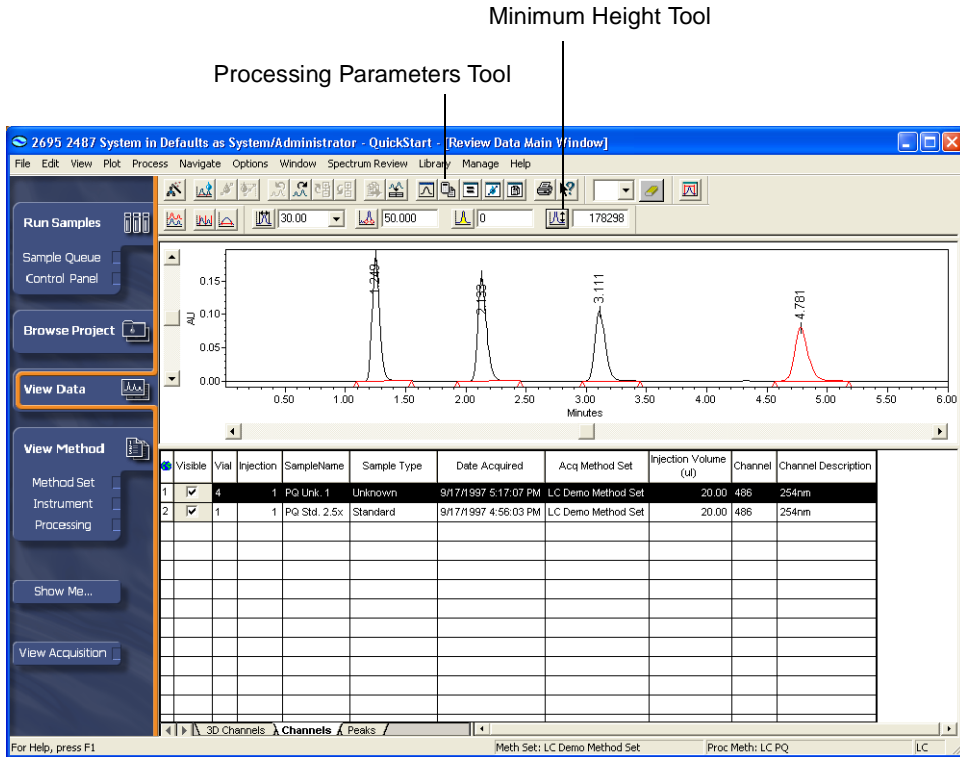

Figure 6-4 View Data, Integrated Data Using a Minimum Height Value
3. If necessary, you can adjust the minimum height or minimum area parameters to further refine the integration (Figure 6-4). To enter appropriate Minimum Area or Minimum Height criteria, perform one of the following:
After setting this value, click  (Integrate) again to update the integration of the chromatogram. The View Data window (Figure 6-4) is updated.